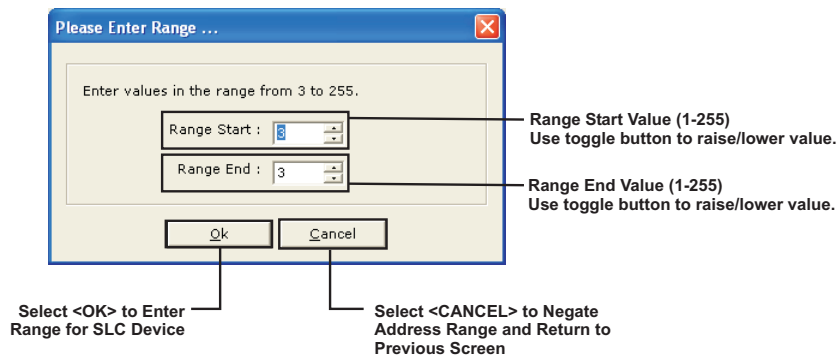

Figure 2-4. SLC Address Box Screen
2. Select the **<Add Devices>** button; Figure 2-4 displays.